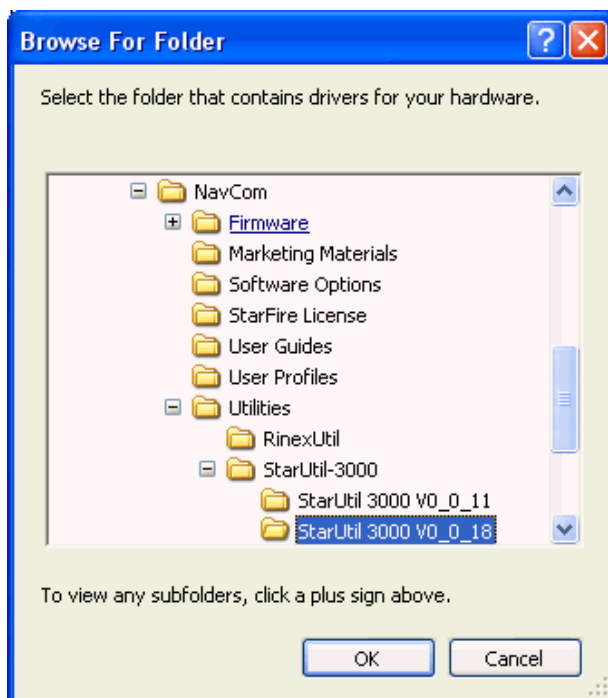

Figure 35: NavCom/Utilities/StarUtil 3000/StarUtil 3000 Application
6. Browse to the *NavCom\Utilities\StarUtil 3000* folder on your PC, open the folder of the most current version of StarUtil 3000, and click OK (see Figure 35).